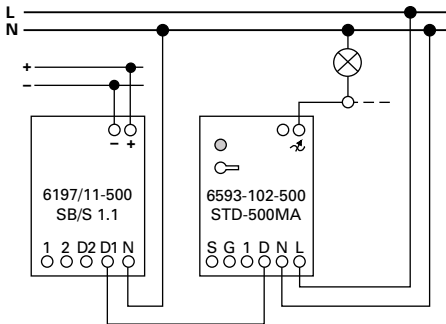

Fig. 3
- by means of power module 6594-102-500 (see Fig. 3)